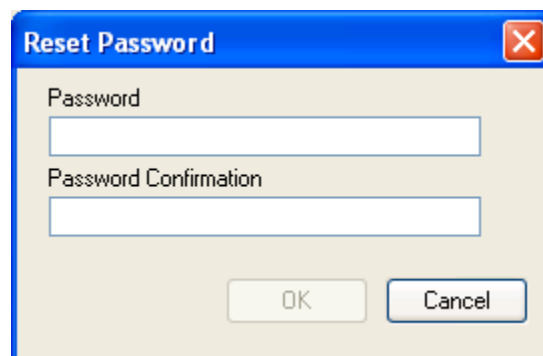

Figure 61 - Reset Password Window
1. Click on the **Reset Password** button. The **Reset Password** window (Figure 61) appears.